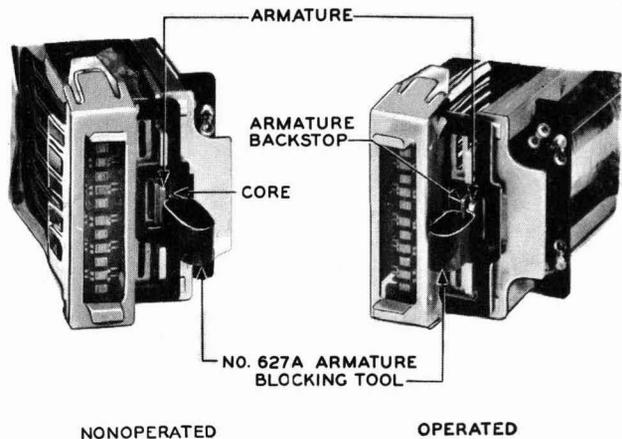

Fig. 5—Blocking AF-, AG-, and AJ-type Relays
3.07 **AF-, AG-, and AJ-type Relays:** Fig. 5—Block relays nonoperated by inserting the No. 627A armature blocking tool between the armature and core. Block relays operated by inserting the armature blocking tool between the armature and the armature backstop. To use the tool, press on the loop portion to bring the prongs in line. Then insert the tool into position to the full length of the prongs.